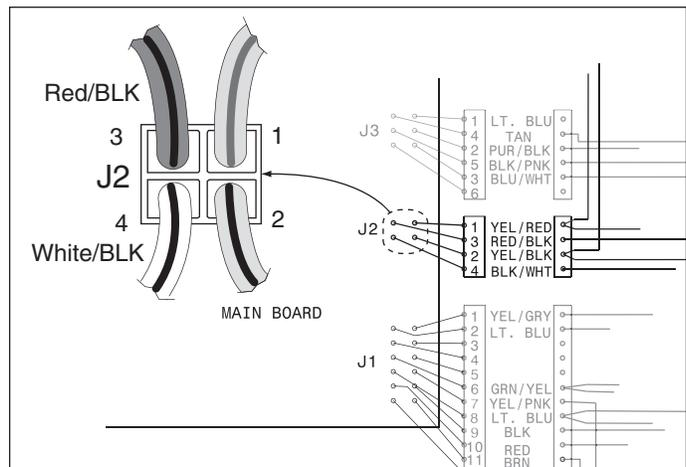

Figure 3-9
2. Remove the lower power board from under the front of the product. (See Section 6 for detailed procedure). You will use connection J2 terminal 3 (RED/BLK) and terminal 4 (BLK/WHT) on the lower control board to test the voltage. (See Figure 3-9) Do not disconnect the molex connector from the board. Slide the probes from your meter along side the wires until you connect with the terminal itself.